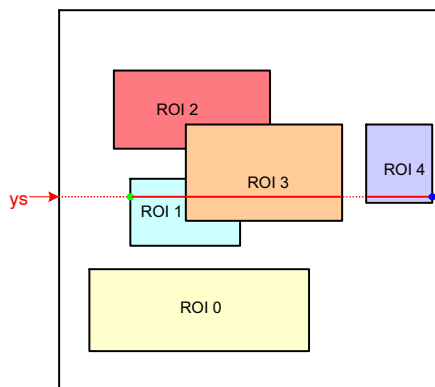

Figure 23. Scanning the Image Array with Five Windows
Figure 23 illustrates a practical example of a configuration with five windows. The current position of the read pointer (ys) is indicated by a red line crossing the image array. For this position of the read pointer, three windows need to be read out. The initial start position for the x-kernel pointer is the x-start configuration of ROI1. Kernels are scanned up to the ROI3 x-end position. From there, the x-pointer jumps to the next window, which is ROI4 in this illustration. When reaching ROI4's x-end position, the read pointer is incremented to the next line and xs is reinitialized to the starting position of ROI1.
- The read pointer is not necessarily incremented by one, but depending on the configuration, it can jump in y-direction. In Figure 23, this is the case when reaching the end of ROI0 where the read pointer jumps to the y-start position of ROI1